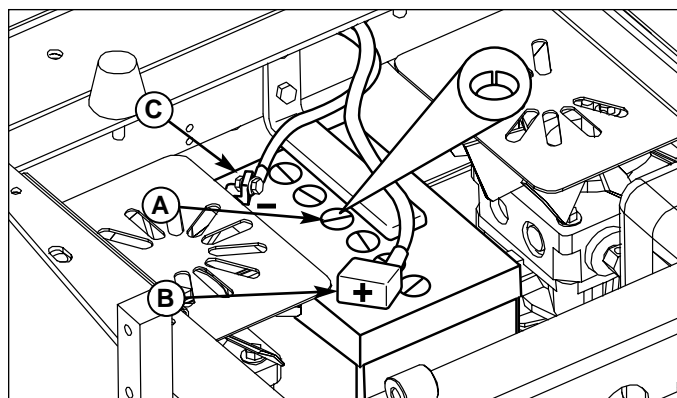

Figure 15. Battery Compartment
2. Remove the battery filler cap (A, Figure 15). Fluid must be even with the split ring full mark. If not, add distilled water.
1. Disconnect the cables from the battery, negative cable first (C, Figure 15).
3. Reinstall the battery and reattach the battery cables, positive cable first (see B, Figure 15)